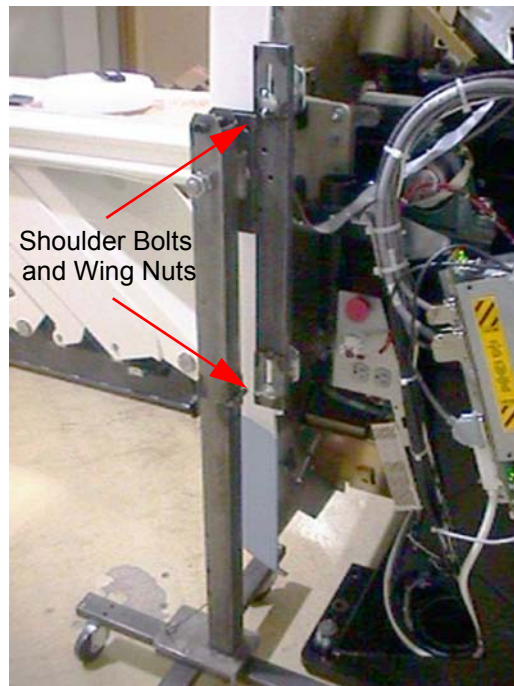

Figure A-12 Front Side Dolly
- a.) Tighten the two (2) shoulder bolts to the gantry securely. This makes cover installation easier (see Figure A-12).